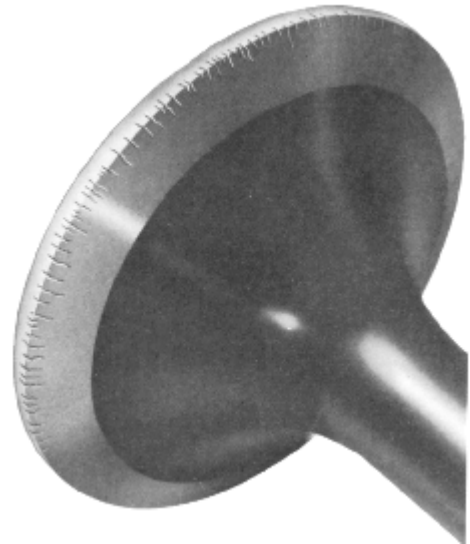

Fig. 2-19 - Face And Ring Defects
2. Any cracks found on the outside diameter of ring section of the valve, Fig. 2-19 are cause for rejection. Since rim cracks usually extend some distance into the valve face, they usually lead to failure.
The face area, Fig. 2-19, is the critical area of the valve. Grinding cracks, channeling, and thermal cracks are cause for valve rejection.